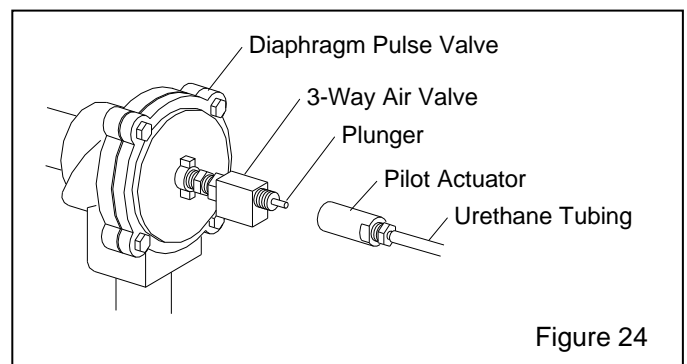

Figure 24
**8.15.5** Check the diaphragm pulse valve and actuator assembly. Refer to Figure 24.